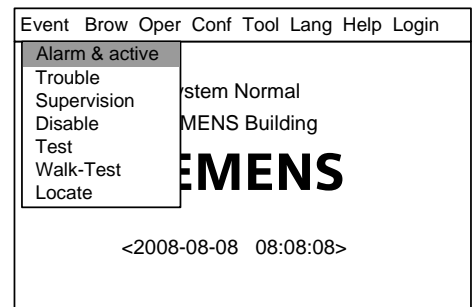

Fig.27-1
1. Press "Menu" to browse the main menu (Fig. 27-1)